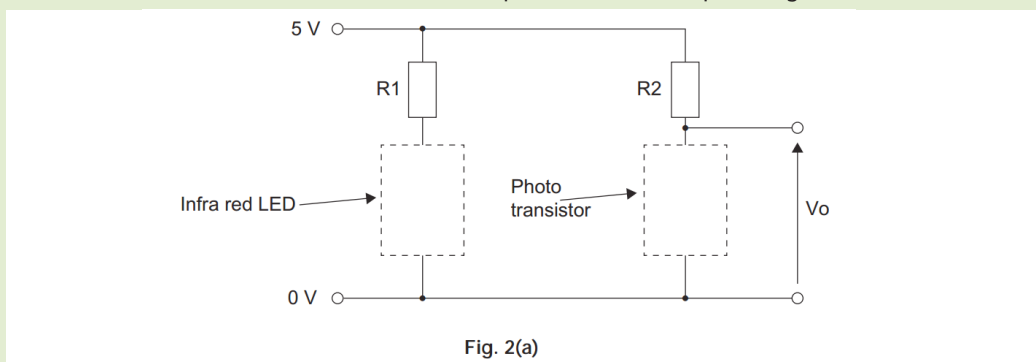

Fig. 2(a)
- 2 Fig. 2(a) shows an incomplete circuit consisting of a 5 volt supply and two resistors, R1 and R2. The resistors are connected to an infra red LED and phototransistor respectively.
- (ii) With the aid of a labelled graph, explain how the voltage  $V_o$  in Fig. 2(a) changes when a solid object passes between the infra red LED and the phototransistor.
- 2 (iii) Show, with the aid of a diagram, how the circuit shown in Fig. 2(a) could be modified to incorporate an LED that will illuminate to indicate when the phototransistor is conducting.